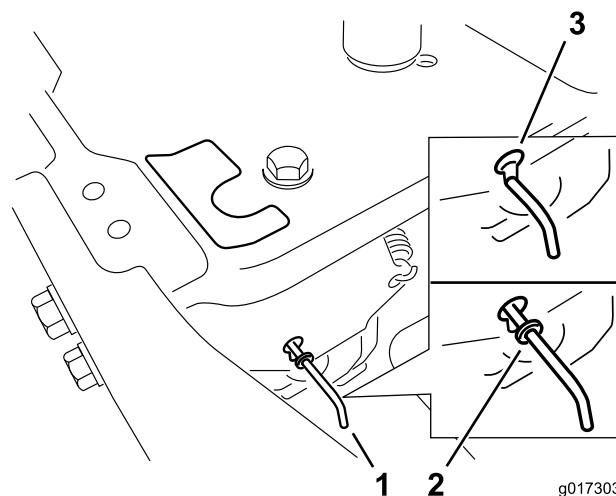

Figure 23
4. Move the bypass levers forward through the key hole and down to lock them in place as shown in Figure 23. Ensure this is done for each lever.
Move the bypass levers rearward through the key hole and down to lock them in place as shown in Figure 23. Ensure this is done for each lever.